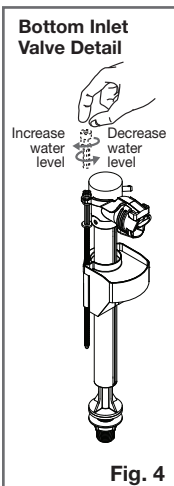

Fig. 4
- 6- Adjust water level. Turn on water mains. Open the Cistern Stop Valve and check the operation of the mechanisms and valve. Adjust water level to the water level mark inside the cistern by simply turning the float arm adjustment screw in a clockwise or anti clockwise direction as detailed in **Fig. 4**.